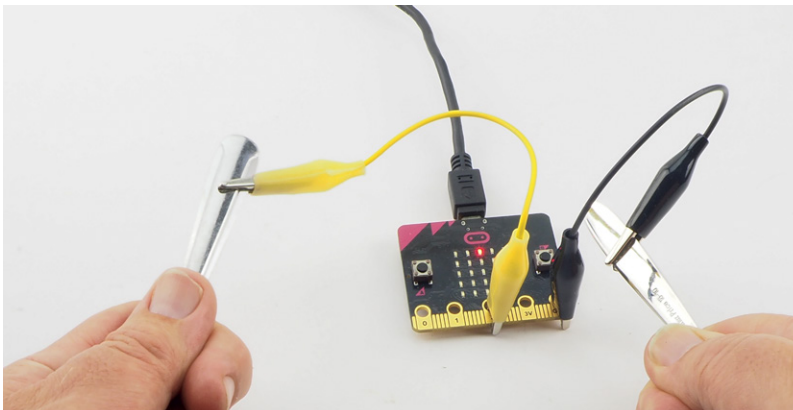

Figure 8-3: Lie detector
The Mad Scientist doesn't like surprise parties, and they want to figure out whether their lab assistants are planning one for their birthday. They'll have to use their lie detector (Figure 8-3) to figure it out!
2. Use one alligator clip to connect the handle of one of the spoons to pin 2 and the other alligator clip to connect the other spoon to GND, as shown in Figure 8-3.